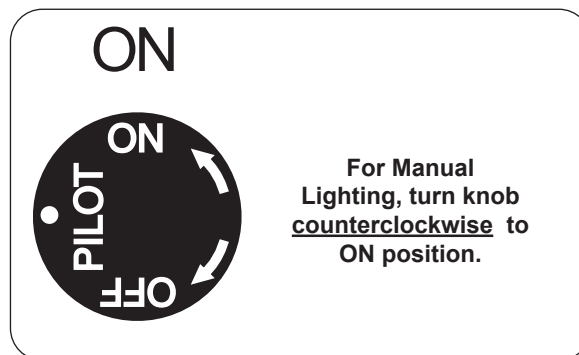

Fig. 27-3 Control knob detail (ON)
2. Turn the gas control knob counterclockwise to **ON** (Fig. 27-3) to ignite the burner. The valve will open and the burner will light.